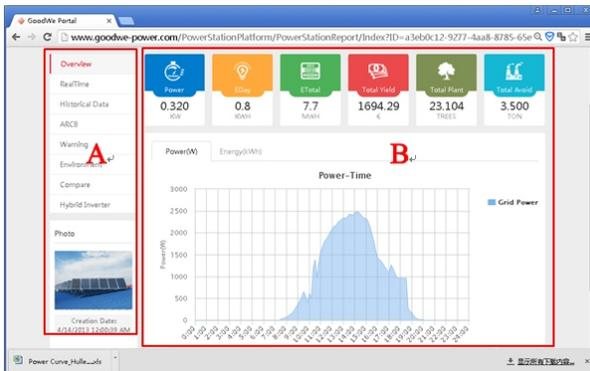

Figure 7.2-2 Smart Energy Management System Monitoring Information
Step 2: After entering the monitoring platform, find the power station that you have created, and then you can view the detailed information about the PV power station, as shown in Figure 7.2-2: